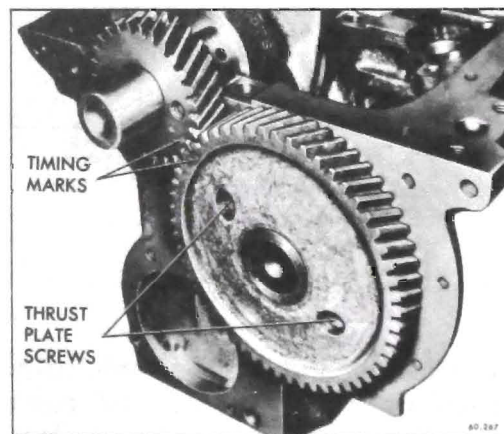

Figure 60-128 - Timing Gear Marks
4. Align timing gear marks then remove the two camshaft thrust plate bolts by working through holes in the crankshaft gear. See Figure 60-128.
2. Turn crankshaft and camshaft so that the valve timing marks on the gear teeth will line up. See Figure 60-128. Push camshaft into position. Install camshaft thrust plate to block bolts and torque to specifications.